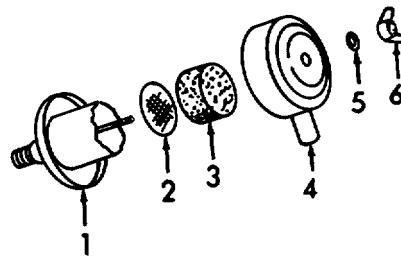

Figure 3-22. Air Cleaner, Installation.
- (1) Inspect for missing or damaged hardware.
- (2) Inspect cover for damage.
- (3) Inspect filter for damage.
- (4) Inspect screen for damage.
- (5) Inspect body for damage.
*e. Installation.* (Refer to Figure 3-22).